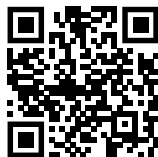

Fig. 154
- ▶ Åbn Liebherr SmartMonitoring Dashboard. (se Fig. 154)